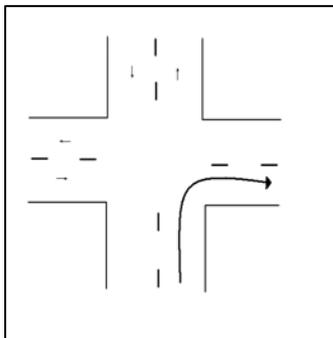

Figure 2-11
- C. Right Turns: (See figures 2-11 and 2-12 on the next page)